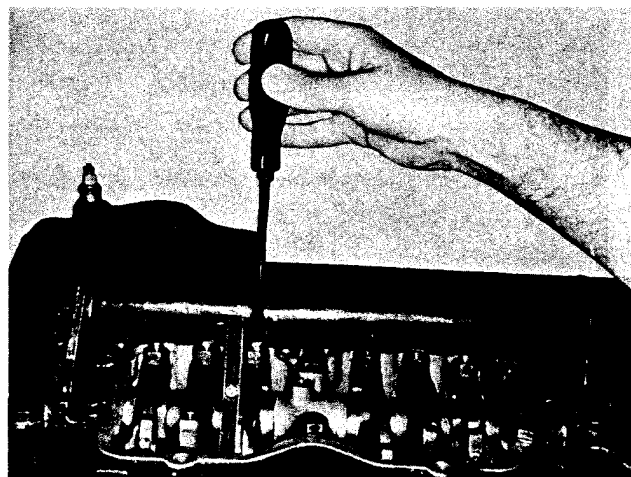

Fig. 2-47, (N114215). Adjusting valves
2. Loosen locknut and back off the adjusting screw. Insert feeler gauge between rocker lever and crosshead. Turn the screw down until the lever just touches the gauge and lock the adjusting screw in this position with the locknut, Fig. 2-47. Tighten locknut to 30 to 40 ft-lbs [4.15 to 5.53 kg m] torque. When using ST-669 torque to 25 to 35 ft-lbs [3.46 to 4.84 kg m].